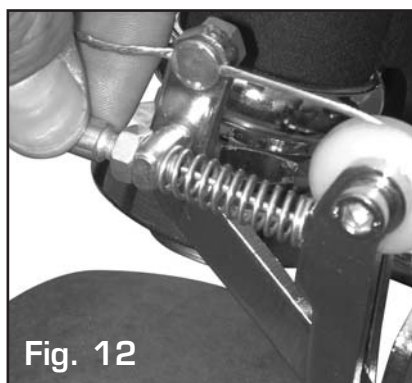

Fig. 12
2. With the other hand, loosen the locknut (Fig. 12) of the tension screw on the brake line.